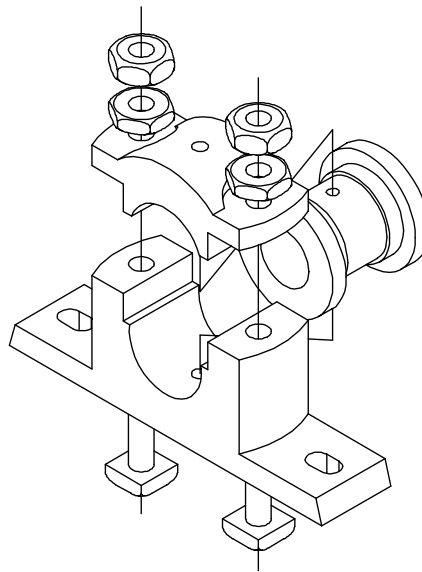

Figure 9-69 Exploded state of the assembly displaying the offset lines
10. Select the axes of the two Nuts and the Square headed bolts to create the offset lines as shown in Figure 9-69.
11. Now, spin the model and select the axis of the oil hole on the Cap from the lower curved surface and then select the axis of the upper oil hole on the Brasses to create the offset lines between them. Similarly, create the offset lines between the lower oil hole on the Brasses and that on the Casting as shown in Figure 9-69.
12. The final assembly after creating the offset lines in the exploded state should look similar to the one shown in Figure 9-69.